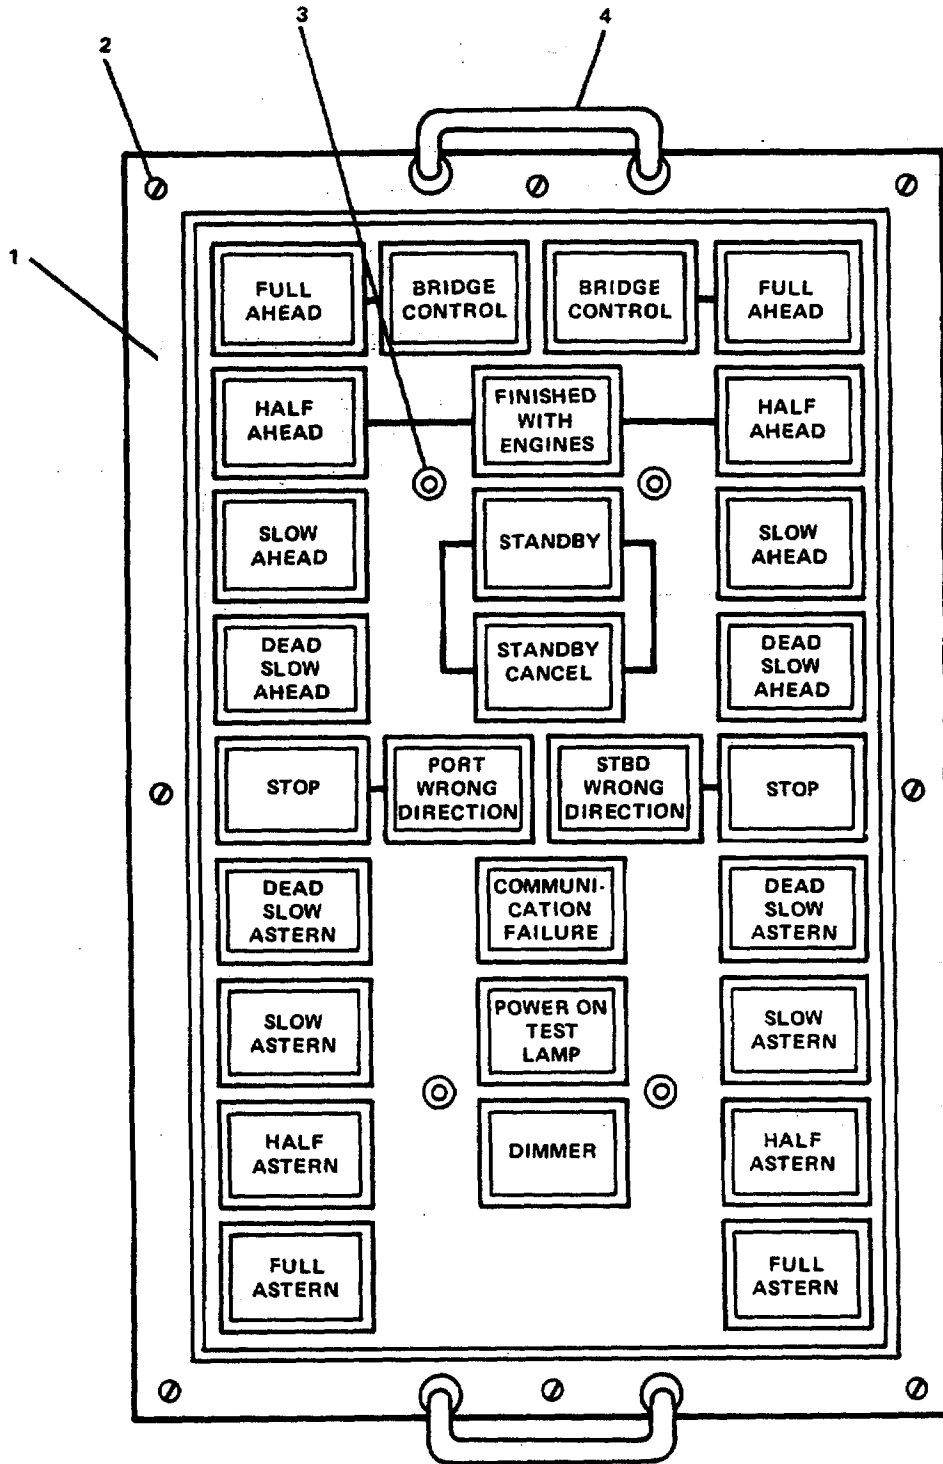

FIGURE 3-122. EOT Bridge Panel Assembly.
- j. Remove tag and connect electrical power cable (24) to FIRE PUMP NO. 2 (27).
- k. Remove tag and connect electrical power cable (8) to STBD STRG GEAR PUMP (7).
- l. Remove tag and connect electrical power cable (14) to MCCP205 (15).
- m. Remove tag and connect electrical power (13) to MCCP205 (16).
- n. Remove tag and connect electrical power cable (4) to PORT STRG GEAR PUMP (17).
- o. Install motor controller multi-remote module (5) in enclosure (3, Sheet 1).
- q. Close cover (2) and tighten captive screws (1).
**3-134. Replace/Repair Bridge Panel Assembly. (Figure 3-122)**